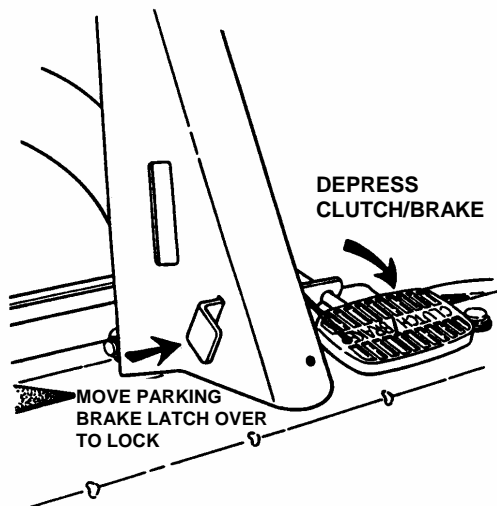

FIGURE 4.8
4. Depress clutch/brake pedal all the way down. Move and hold the park brake latch over in the "ON" position and release the clutch/brake pedal to lock the park brake. See Figure 4.8.